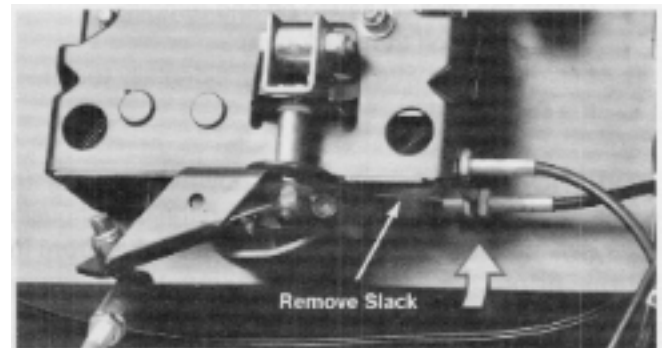

Figure 42
1. **Latch Cable Adjustment:** Adjust the latch control cable by removing slack between the end of the sheath and the end of the cable. Do not tighten beyond the point of removing slack. See Figure 42.